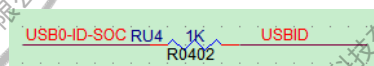

Figure 2-30 USB-ID Series Resistors
- Suggest that reserve the series resistors in the ID signal line. This is to avoid the signal undershoot when a USB device is inserted to affect the signal quality and to improve the ESD performance of IO signals. As shown in Figure 2-30.